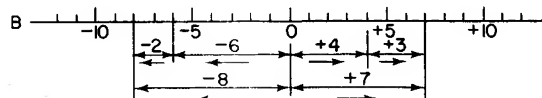

Fig. 1.15
1. To find the value of $+4+3$. Measure 4 units to the right of 0 and then a further 3 units to the right. The final position is 7 units to the right of 0 (Fig. 1.15).
of 0 and then a further 2 units to the left. The final position is 8 units to the left of 0 (Fig. 1.15).